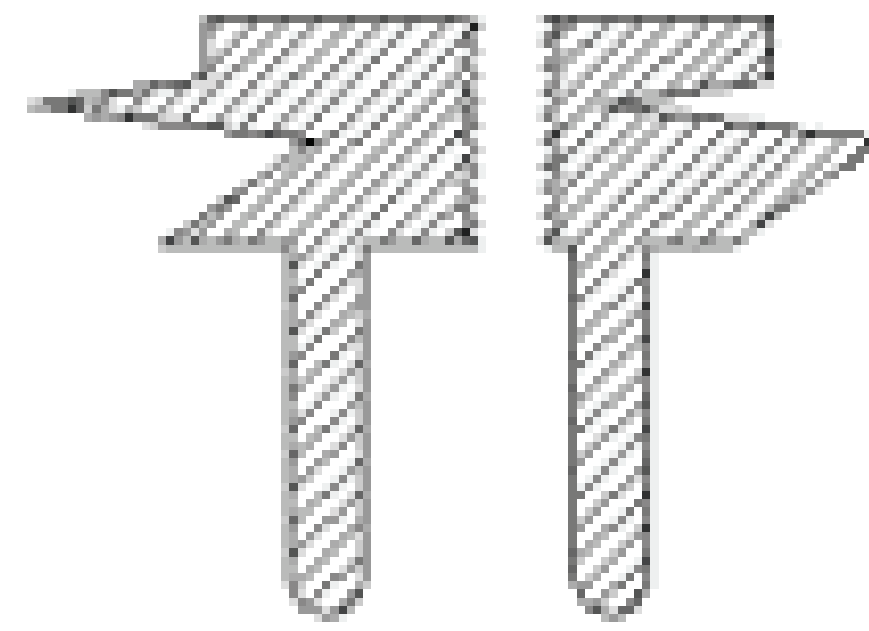

Fig. 2
2. Tapping a hole through the heat sink, without intersecting any part of a fin, is the easiest and most trouble free tapping process. (Fig 2)